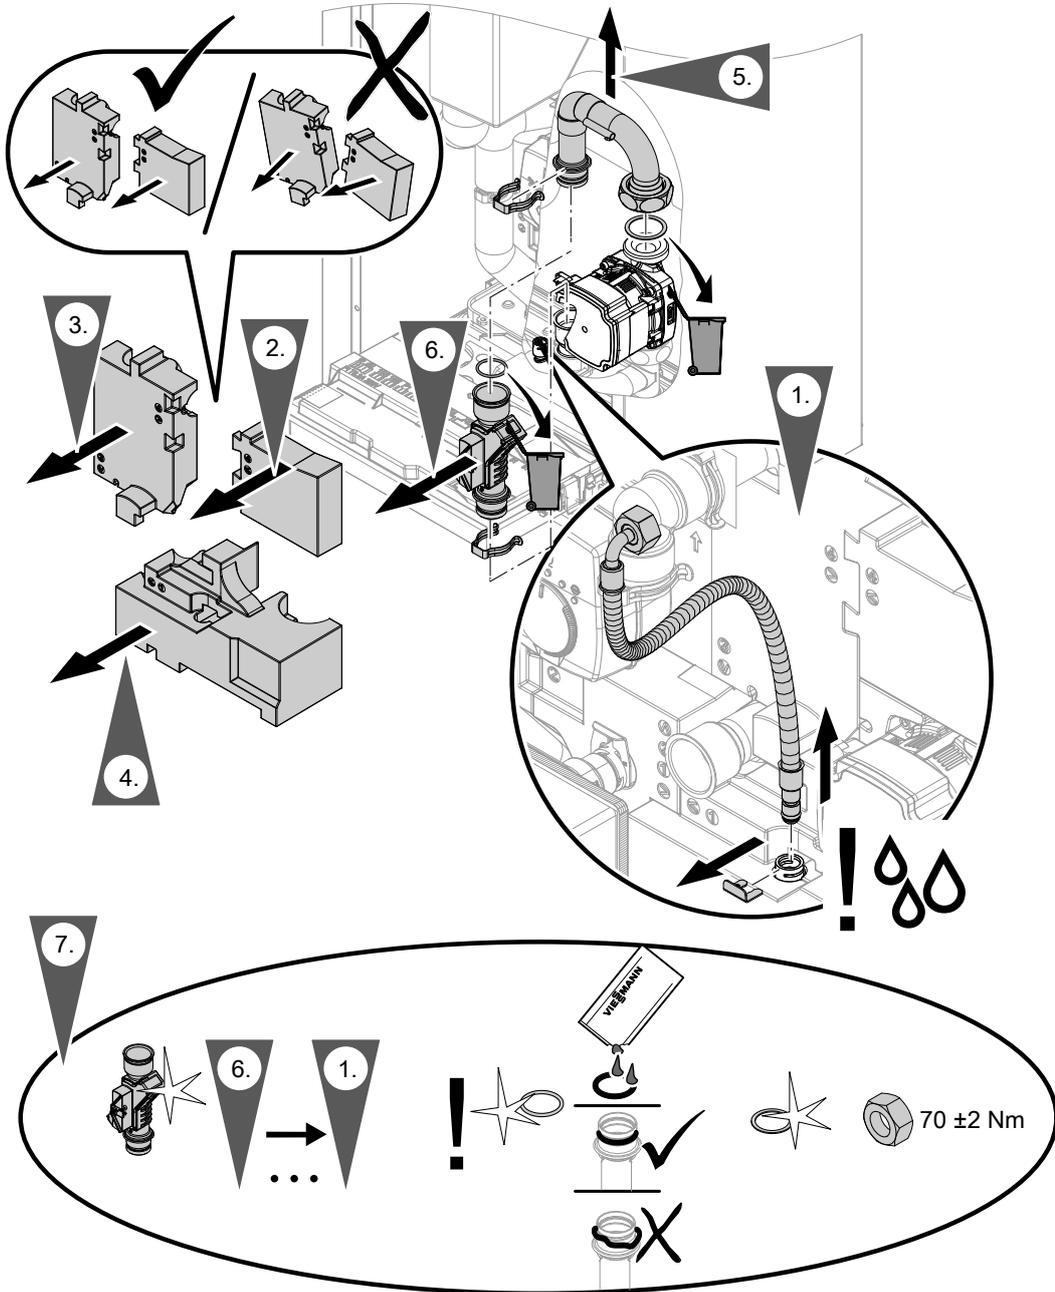

Fig. 79
- Flow sensor connecting cable: See Fig. 79.